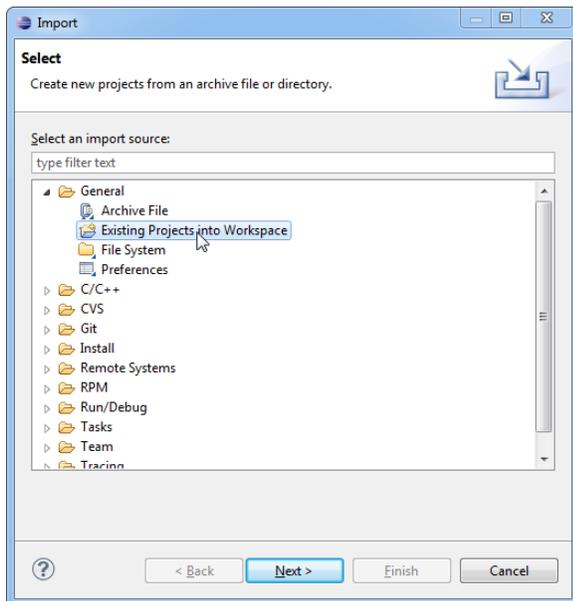

Figure 7. Importing an Existing Project
2. Select the **General** folder and click on **Existing Projects into Workspace**, as shown in Figure 7.